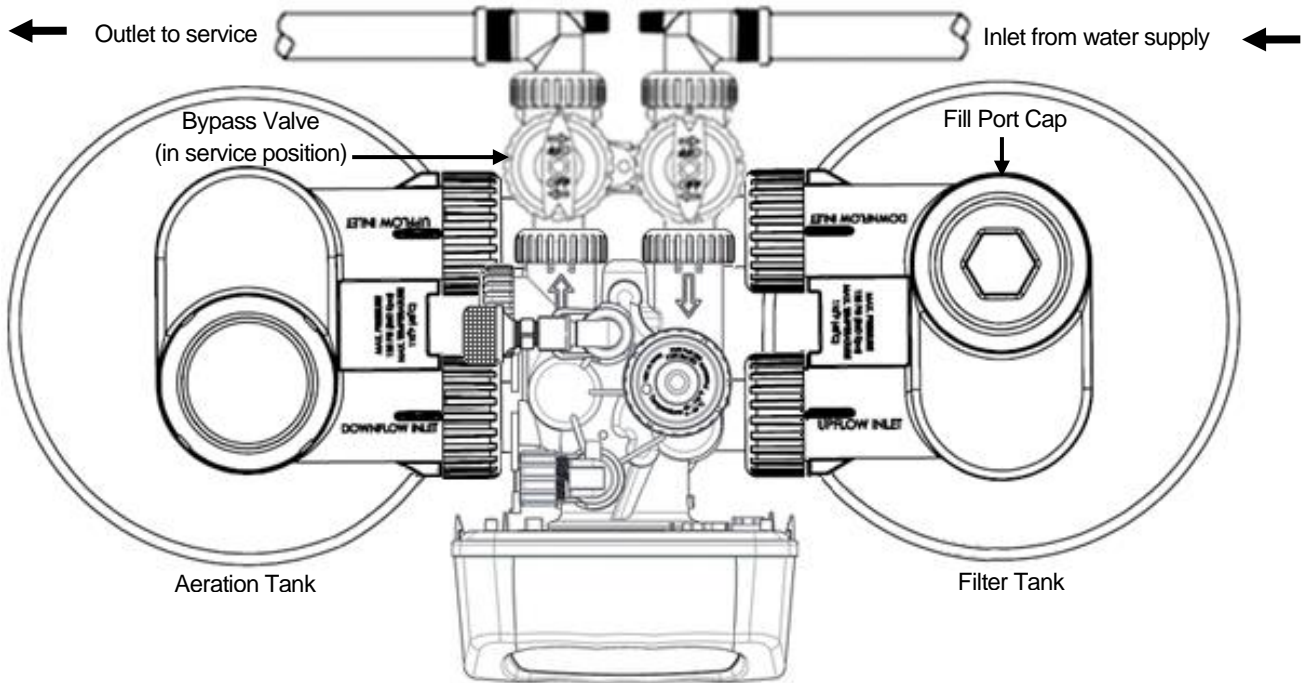

FIGURE 6a: Tank Positioning and Fill Port Location
- STEP 2:** Place the tanks in the upright position. Use the provided wrench to **remove the fill port cap from the filter tank** (See Figure 6a, page 7) by turning it counter-clockwise.